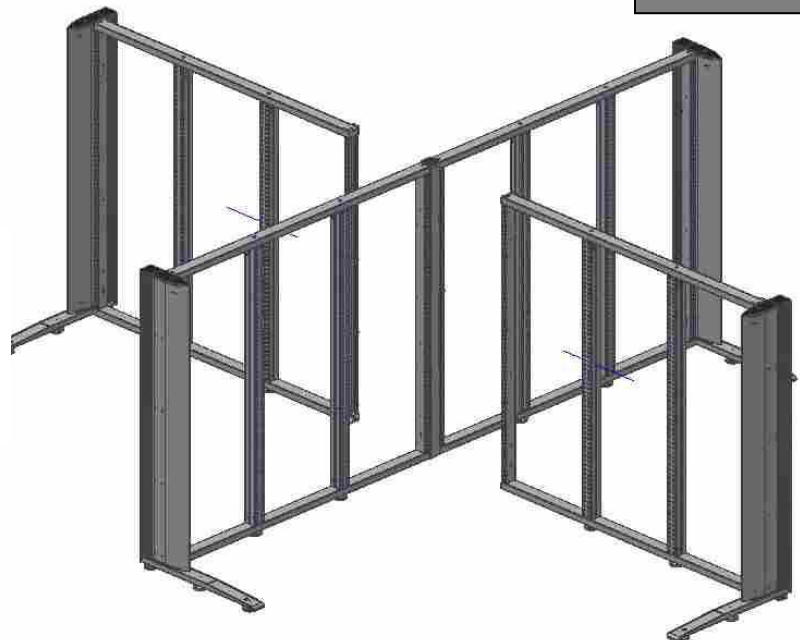

Fig 4
STEP 3 – Mount the other row of structures and screw them in place (Fig. 4)